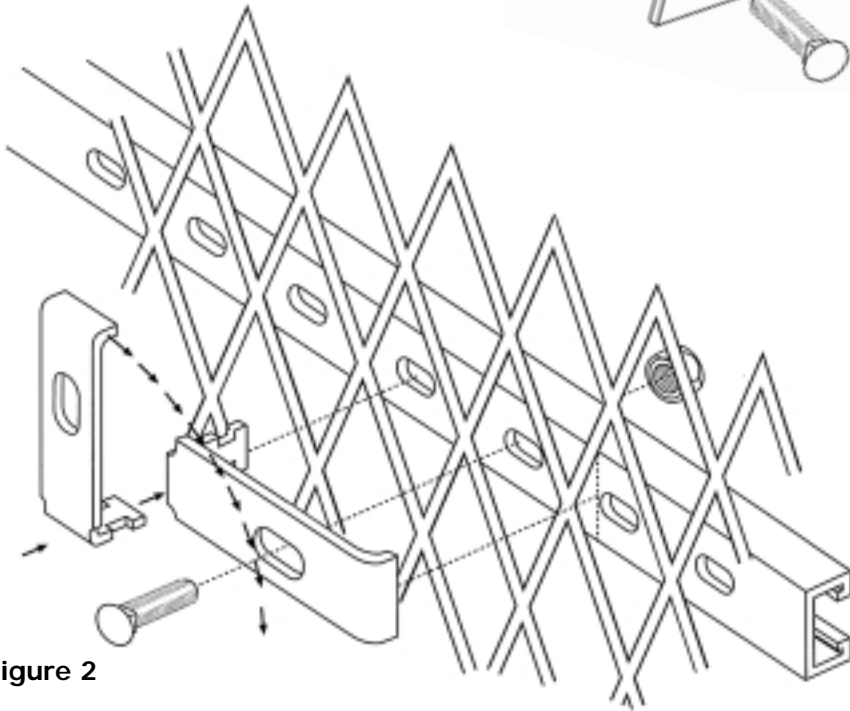

Figure 2
b. Diamond stringer assembly (Fig 2).
The clamp strip is now attached using M8 x 90 carriage bolt with snap off nuts bolted through the post as shown in Fig 2.